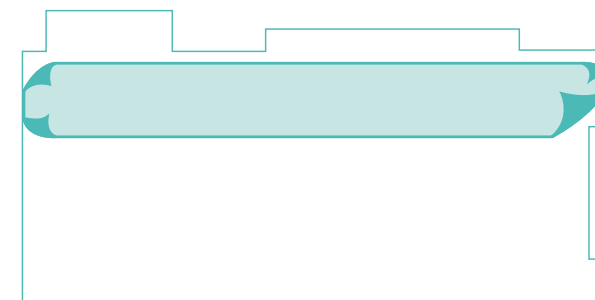

Figure 6.1 Lining up the first sheet
- ▶ Adjust the lie of the sheet so that the inner edge is parallel with the axis of the room (Figure 6.1).